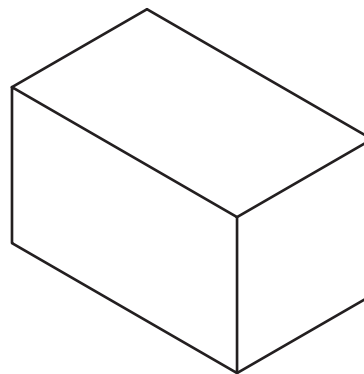

Fig. 38-3
2. Enter the **LINE** command and draw the aluminum block shown in Fig. 38-3. Make it **3 × 3 × 5** units in size.